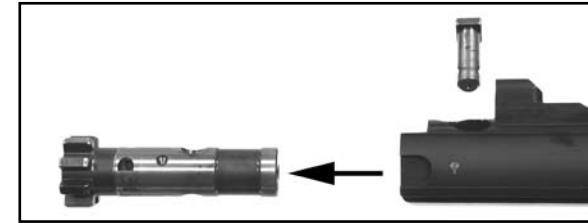

Fig. 28 – Slide the Bolt Head out
f. Slide the bolt head from the front of the bolt carrier (Fig. 28).